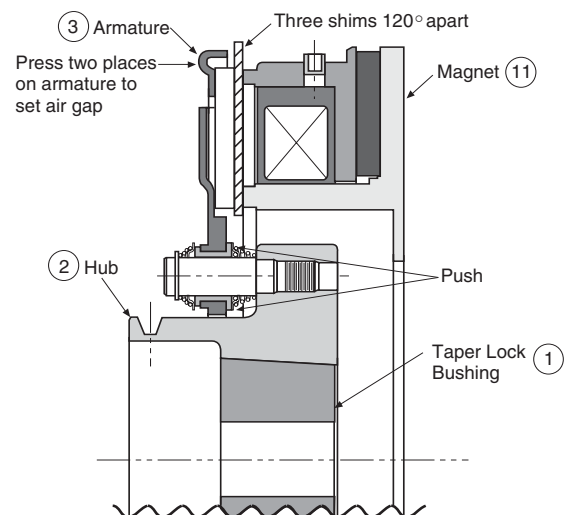

Figure 5
Step 9: Turn off power to the brake. Place three steel shims 120 degrees apart on the magnet as shown in Figure 5. Insert the taper-lock bushing (item 1) into the hub (item 2). Align the two half drilled holes in the taper-lock bushing (item-1) with the two half threaded holes in the hub (item-2). Insert the two set screws into the above aligned holes & screw them loosely in by hand to maintain the alignment during assembly.
Step 11: Apply power to the brake and remove shims. Set the airgap by pressing the armature into contact with the magnet and then releasing as shown in Figure 5. The armature should spring back approximately 1/32- 3/64 (.031-.045) inch. If the airgap is outside of that range, reposition the armature hub assembly by repeating steps 1 and 2 of the disassembly procedure and steps 8, 9, and 10 of the assembly procedure.